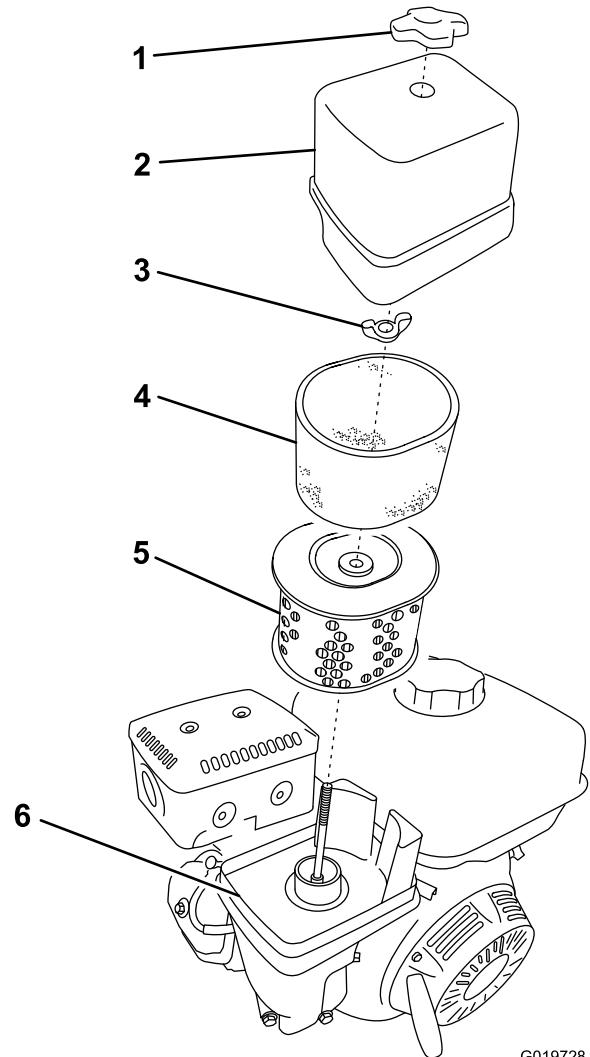

Figure 44
3. Remove the nut that secures the cover (Figure 44).
- Remove the foam and paper elements from the base (Figure 44).
- Remove the foam element from the paper element (Figure 44).